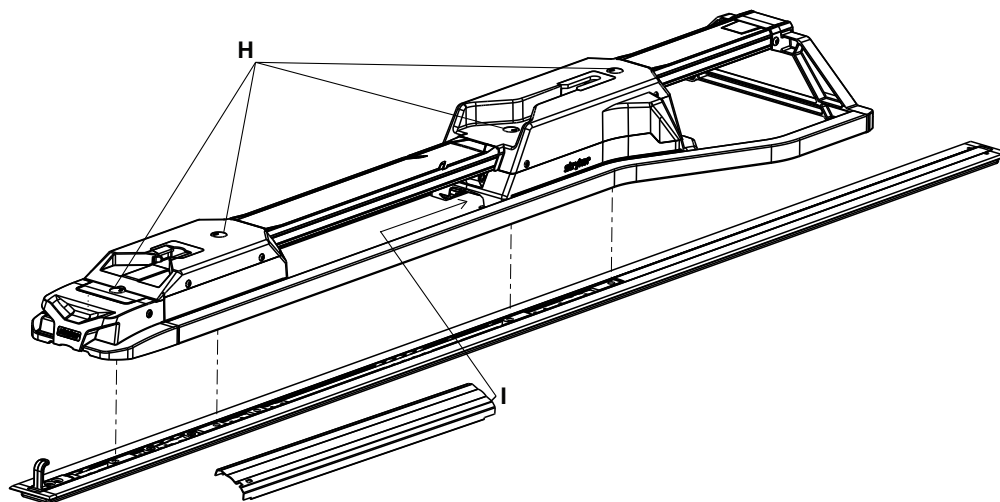

Figure 11 – Attach the fastener
17. Rotate the spin caps (H) a half turn to access the attached floor plate bolts that are under the caps (Figure 11).
19. Using a 3/8" hex wrench, install the other three attached floor plate bolts (H) into the two cleats (Figure 11).
23. Insert the unnotched side of the center cover assembly (6392-001-011) (I) into the opening in the head end housing (Figure 11).
- _____ Using a torque wrench, check that all four attached floor plate bolts (A) are tightened 60+/-10 ft-lb (Figure 11).